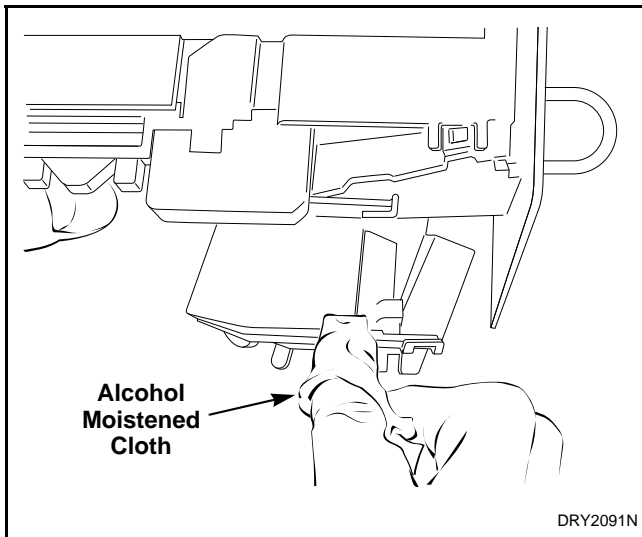

Figure 57
- Clean residue from coin rail with an alcohol moistened cloth. Refer to *Figure 57*.